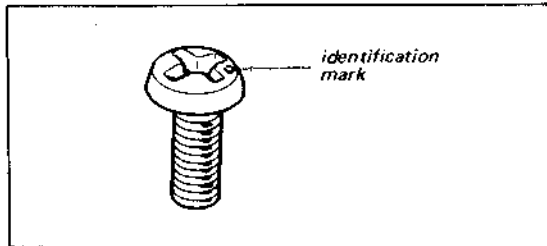

Fig. 2-1. ISO screw
**Note:** All screws in the STR-230A are manufactured to the specifications of International Organization for Standardization (ISO). This means that the new and old screws are not interchangeable because ISO screws have a different number of threads per mm compared to the old ones. The ISO screws have an identification mark on their heads as shown in Fig. 2-1.